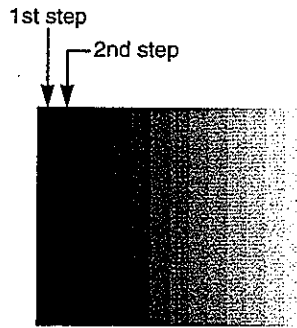

Fig.4-5 16 step gray scale
2. Use the XGA VESA(60) timing signal to input a 0.7Vpp green primary signal and measure the luminance at the center of the image. Suppose the reading is "A".
4. Use the XGA VESA(60) timing signal to input a 0.21Vpp green primary signal. Adjust the luminance with SUB-BRIGHT - W to $A \times 0.09 \pm 10$ [lx].
5. Use the XGA VESA(60) timing signal to input a 0.7Vpp green primary signal. Adjust the luminance with SUB-CONTRAST - W to $A \times 0.95 \pm 20$ [lx].
7. Use the XGA VESA(60) timing signal to input a 0.0Vp-p black pattern. Adjust the luminance with DAC_P - BLACK2-POSI - W to $A \times 0.009 \begin{matrix} +1 \\ -0 \end{matrix}$ [lx].
8. Use the XGA VESA(60) timing signal to input 0.7Vpp 16 step gray scale signal. See the two darkest steps if they can be distinguished. Use DAC_P - BLACD2-POSI - G in order to make a little different luminance between 1st step and 2nd step by visual check. (See Fig.4-5.)
- b. Adjust DAC_P - BLACK2 POSI - B so that the brightness between 1st and 2nd step is different slightly. (See Fig. 4-5.)
- d. Adjust DAC_P - BLACK2 POSI - R so that the brightness between 1st and 2nd step is different slightly. (See Fig. 4-5.)